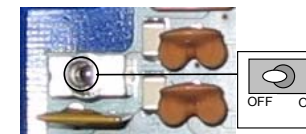

Figure 3 - Power Switch ON/OFF Positions
Switch ON the CBX100 power switch (see Figure 3). The Power LED turns on (blue) when the power connection has the correct polarity. The Power LED turns on (red) in case of wrong polarity.
The power switch (see Figure 3) switches the power supply ON or OFF for both the CBX100 and the connected reading device.
- 2) Verify that the CBX100 power switch is off (see Figure 3).